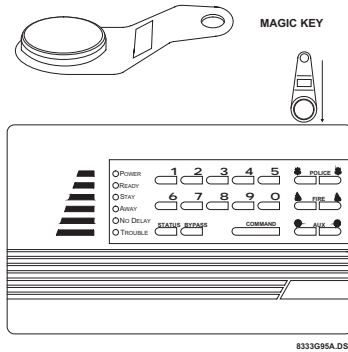

Figure 4. Inserting the Magic Key into the Slot
2. Insert the Magic Key into the slot within 30 seconds of changing your primary access code (see Figure 4).
3. Insert the Magic Key into the slot within 30 seconds of changing your temporary access code (see Figure 4).